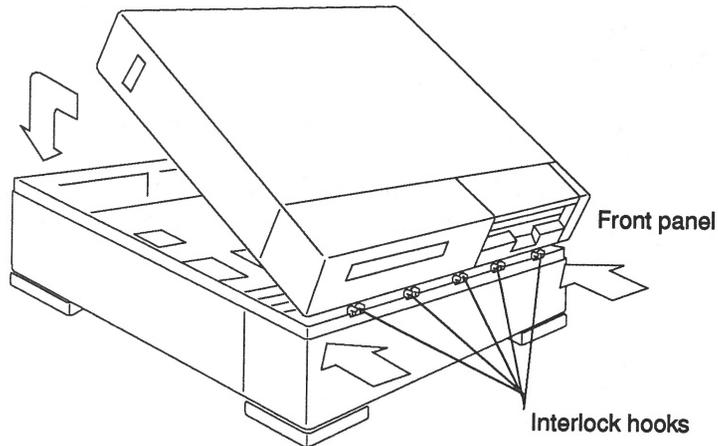

Figure 5-11 Closing the System Unit
2. Rest the front edges together to connect the interlock hooks by pushing gently toward the back of the unit. Refer to Figure 5-11.